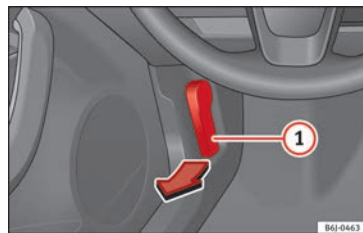

Fig. 6 Release lever in the driver's footwell area.
- Opening the bonnet: Pull the lever under the dashboard » **Fig. 6** ①.